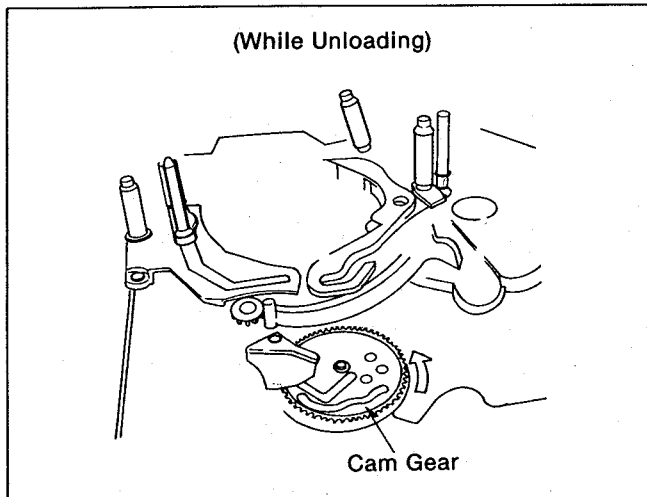

Fig. M15
- (2). When installing of T-Rail finished, turn the Cam Gear to counterclockwise that set the Roller Posts into stop position as shown in Fig.M15,M16.